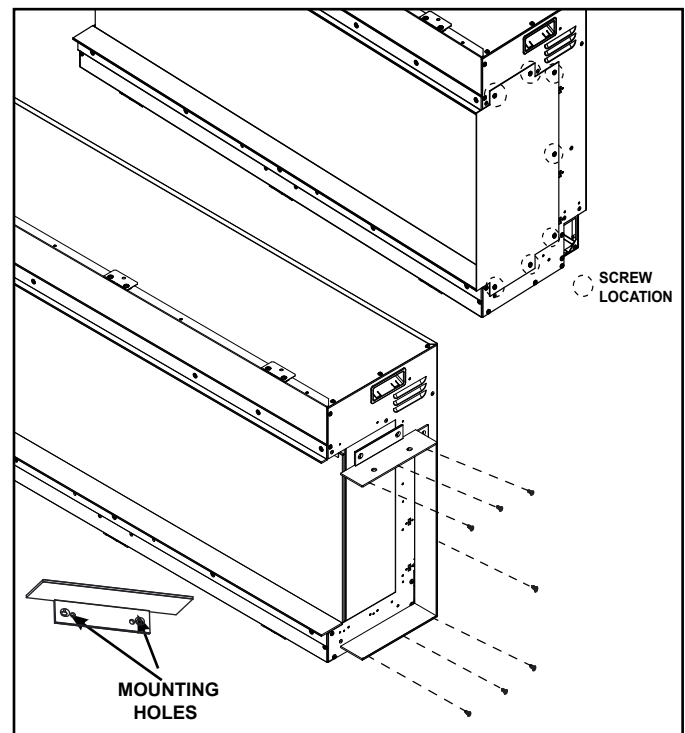

Figure 4.3 Plate Removal and Trim Install
- To install the appropriate trim for the desired configuration, if applicable, remove the the flat side cover plate from the side of the appliance by removing seven screws. See Figure 4.3.
- Install the desired trim, 1/2-inch (13 mm) or 2-inch (51 mm), by securing the top and bottom pieces to the side with two screws each that were removed from the flat side cover plate. Attach the vertical trim with three screws. Note: The bottom trim has 4 holes. See Figure 4.3.